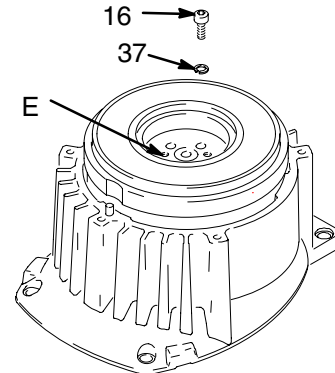

Fig. 6 8701B
5. Fig. 6. Place pinion assembly (4) on bench with rotor side up.
6. Remove four screws (16) and lockwashers (37). Install two screws in threaded holes (E) in rotor. Alternately tighten screws until rotor comes off.
12. Fig. 6. Place pinion assembly on bench with rotor side up.
13. Apply Loctite to screws. Install four screws (16) and lockwashers (37). Alternately torque screws to 125 in-lb until rotor is secure.
14. Push pinion housing (4) assembly onto clutch housing (169e). Tap lightly on front of bearing housing (17) with a plastic mallet to push drive housing and pinion housing assembly onto clutch housing.
15. Install pinion assembly with five screws (47) and lockwashers (37).